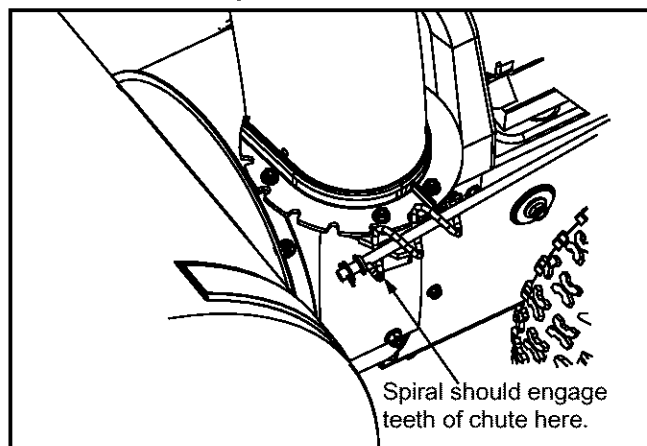

Figure 13
- Adjust the chute directional control bracket so that the spiral on the chute directional control fully engages the teeth on the chute assembly. Tighten all hardware. See Figure 13.